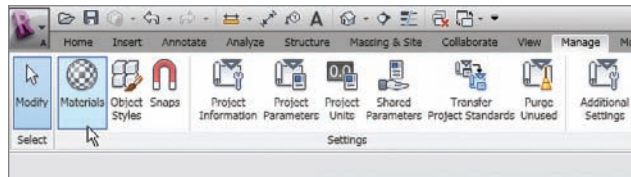

FIGURE 11.73 Select the Materials button on the Manage tab.
1. On the Manage tab, click the Materials button, as shown in Figure 11.73.